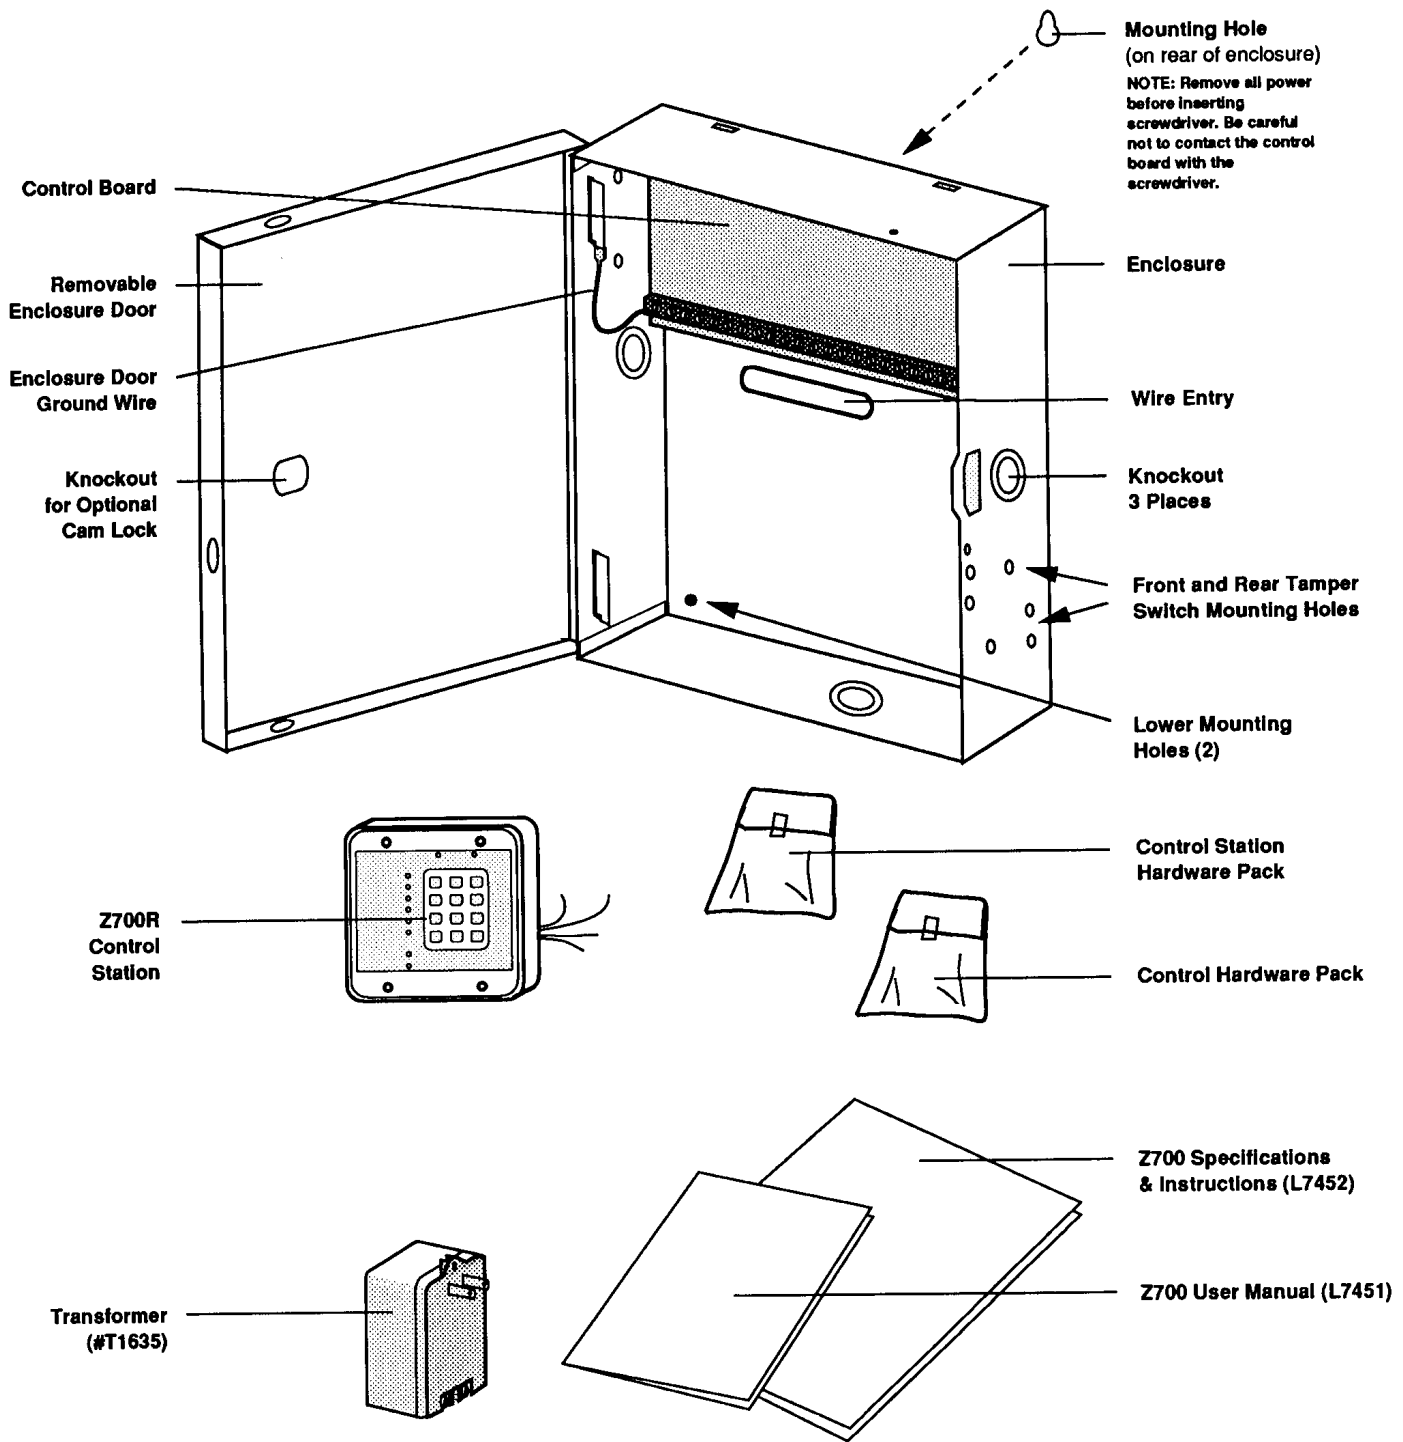

FIGURE 2 Z700 PARTS LIST
1. Remove all packing material and compare the system components with those in Figure 2, page 2 to familiarize yourself with the part names as this manual will refer to them periodically.
4. The enclosure door must be mutually grounded. Connect the female plug on the end of the green ground jumper wire (which is attached to the lower left control board mounting screw) to the bottom of the upper enclosure door hinge (see Figure 2, page 2).